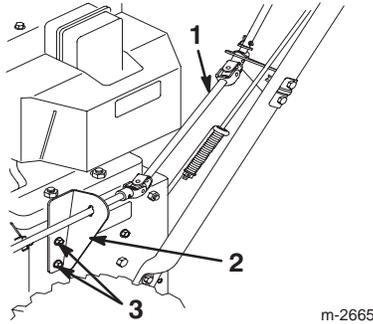

Figure 14
1. Remove the 2 screws from the chute control rod bracket on left side of the frame (Fig. 14).
4. Install the bracket with the 2 screws (Fig. 14).